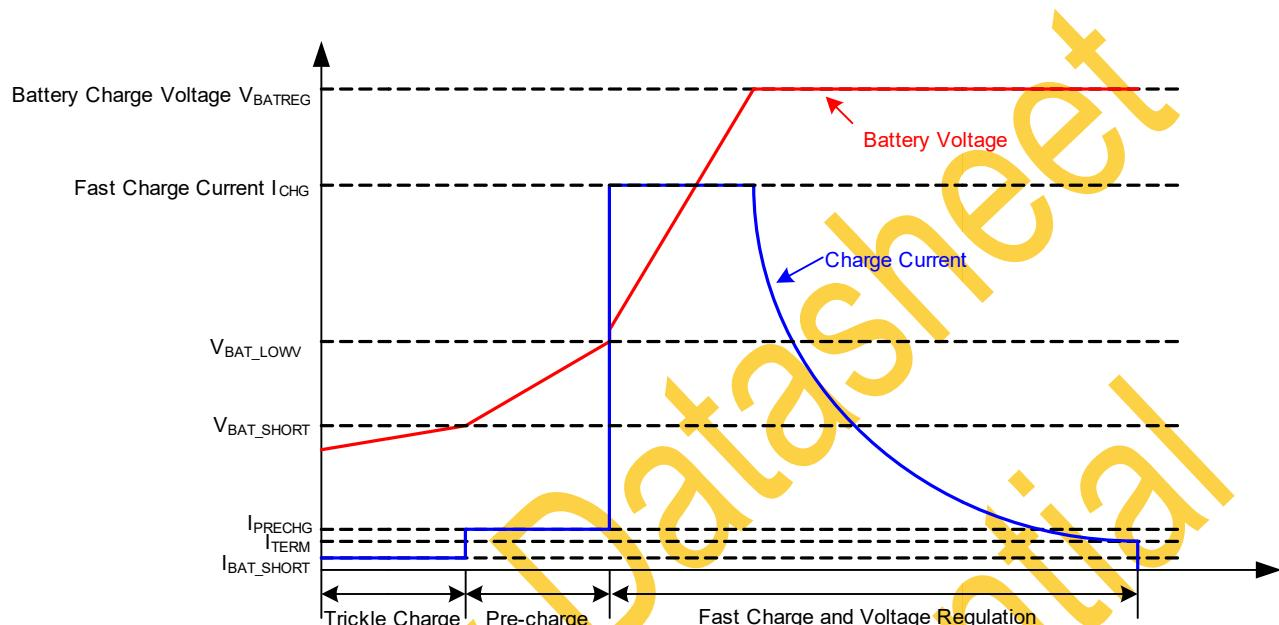

Figure 9. Battery Charge Profile
In Charge Mode as shown in the table of Device Functional Mode, the devices charge the battery in four sub-charge-modes: trickle charge, pre-charge, Constant Current (CC) charge and Constant Voltage (CV) charge as shown in Figure 9. If the battery voltage falls below VBAT_SHORT_FALL, the battery charge battery with trickle charge current IBAT_SHORT, when the battery voltage rises above VBAT_SHORT_RISE and below VBAT_LOWV_RISE, the charger charges battery in precharge mode with charge current at IPRECHG. Fast charge starts once battery voltage rises above VBAT_LOWV_RISE. When battery voltage is close to battery charge voltage VBATREG, the charger goes into CV mode and charge current starts to decreases. When charge current decreases below termination current ITERM, charge is terminated and charge cycle ends. Following charge termination, if the battery voltage follows below (VBATREG – VRECHG_HYS), a new charge cycle restarts.